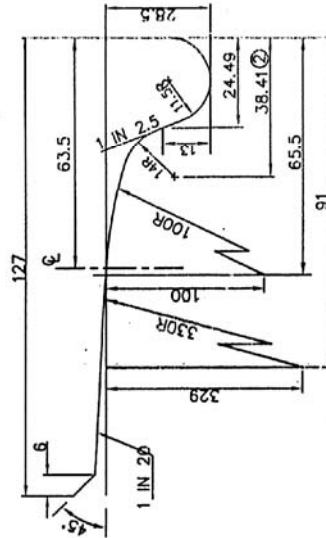

FIG.6: 25mm THICK FLANGE
1. INTERMEDIATE WORN WHEEL PROFILES OF 25mm TO 28mm THICK FLANGE (FIG.6 TO 9) SHOULD ONLY BE USED FOR THE COACHES TO RUN AT MAXIMUM PERMISSIBLE SPEEDS OF 110 kmph AND ABOVE.